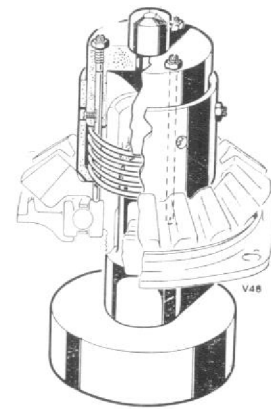

Fig. 6. Press block T.74929 and three-pin adapter, T.78599 for removing ball bearing from top vertical drive gear.
3. Reverse the assembly and position it on press block T.74929, using three-pin adapter T.78599, Fig. 6; press off the ball bearing.